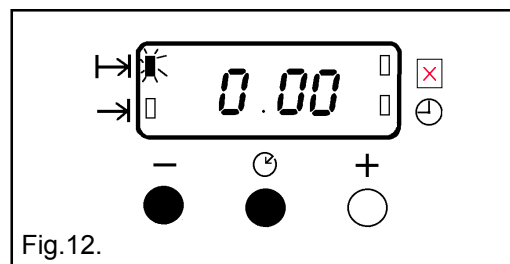

Fig.12.
- i) To cancel an automatic programme press the Selector Control button until the 'Cook Time' indicator (  ) neon flashes. Press the decrease control ( - ) until the display reads 0.00 as Fig. 12.